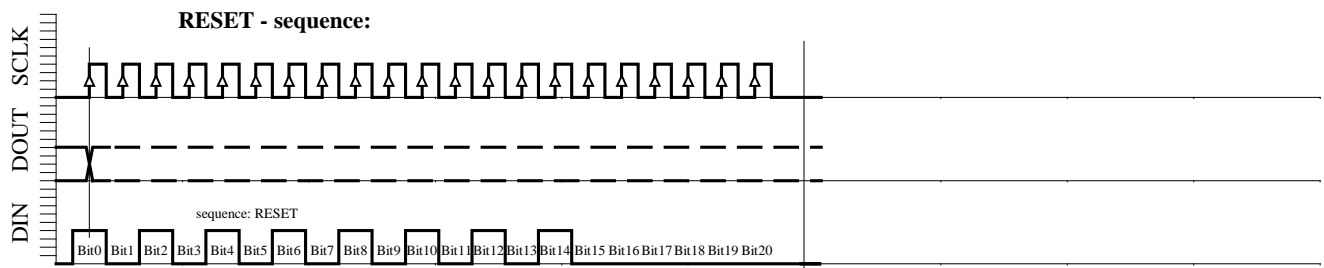

Fig. 6e: RESET sequence (21 bit)
- RESET sequence (Figure 6e)
The RESET sequence is special as the module in any state recognizes its unique pattern. By consequence, it can be used to restart if synchronization between the microcontroller and the MS5561C has been lost. This sequence is 21-bit long. The DOUT signal might change during that sequence (see Fig. 6e). It is recommended to send the RESET sequence before each CONVERSION sequence to avoid hanging up the protocol permanently in case of electrical interference.